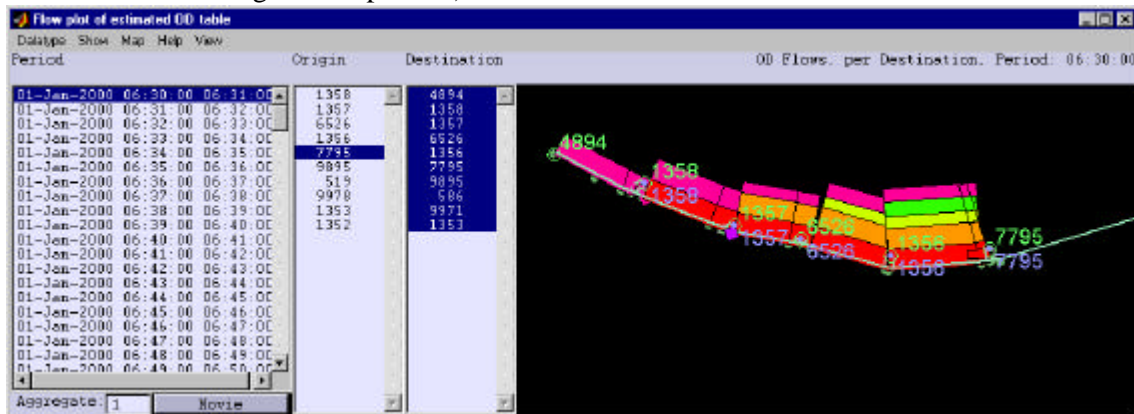

Figure 13: Plot O/D flows on the map
- ◆ Select “Plot O/D flows and O/D splits on map” from the menu “O/D matrix”. This activates the interface shown in Figure 13. You can try the following: